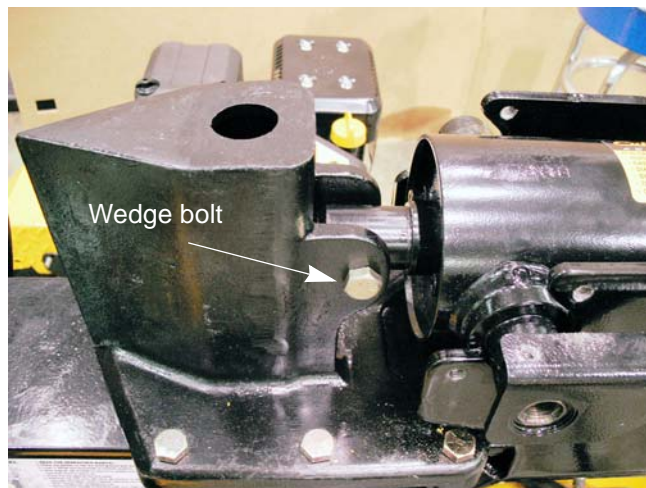

Figure 5.12
17. Remove the nut and bolt that attached the wedge to the cylinder ram using a pair of 3/4" wrenches. See Figure 5.12.